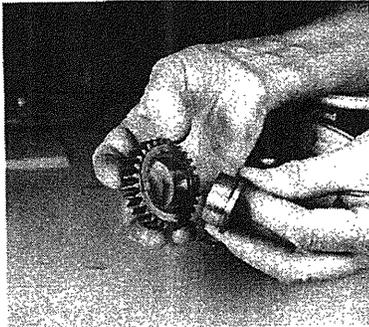

Fig. 3-30
- L. Install bushing in upper clutch gear (Fig. 3-30) and install on planetary shaft with clutch side down.